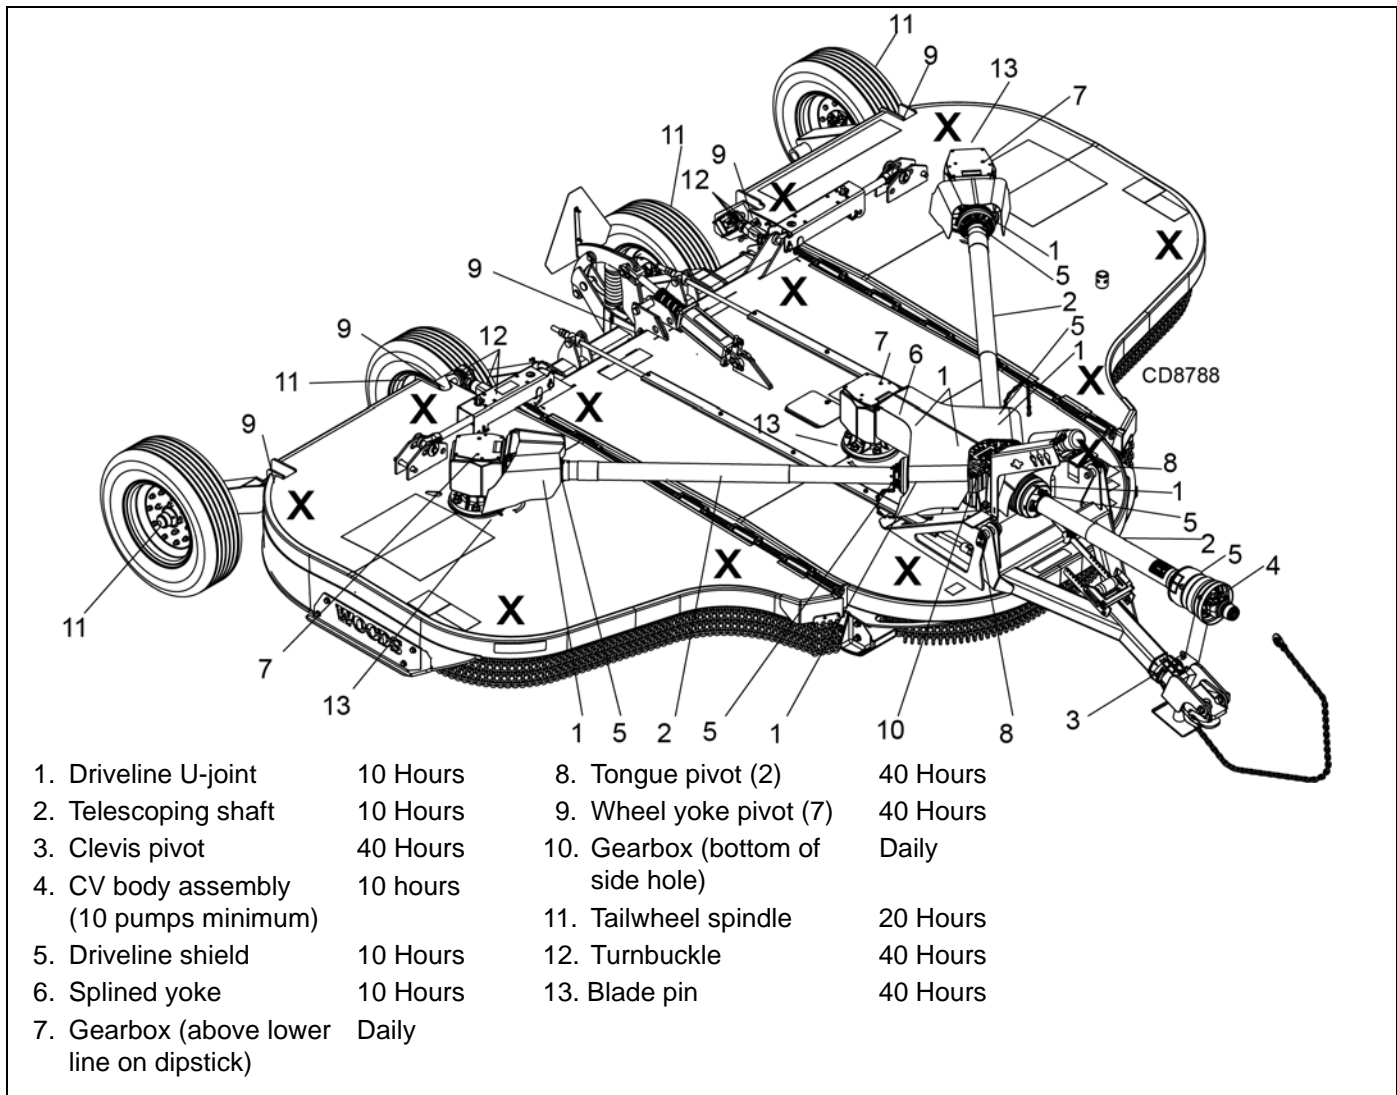

Figure 5. Jackstand Placement and Lubrication Points
1. Jackstands with a load rating of 1000 lbs. or more are the only approved blocking device for this cutter. Install jackstands (shown by Xs in Figure 5) under the cutter before working underneath unit.
See Figure 5 for lubrication points and frequency or lubrication based on normal operating conditions. Severe or unusual conditions may require more frequent lubrication.
2. Raise cutter and block securely (see Figure 5).
3. Align crossbar (8) with blade access hole in the cutter frame. Remove cap screw (16), blade pin lock clip (15), keyhole plate (14), spacer (13), and shims (11 & 12). Carefully drive blade pin (10) out of crossbar.